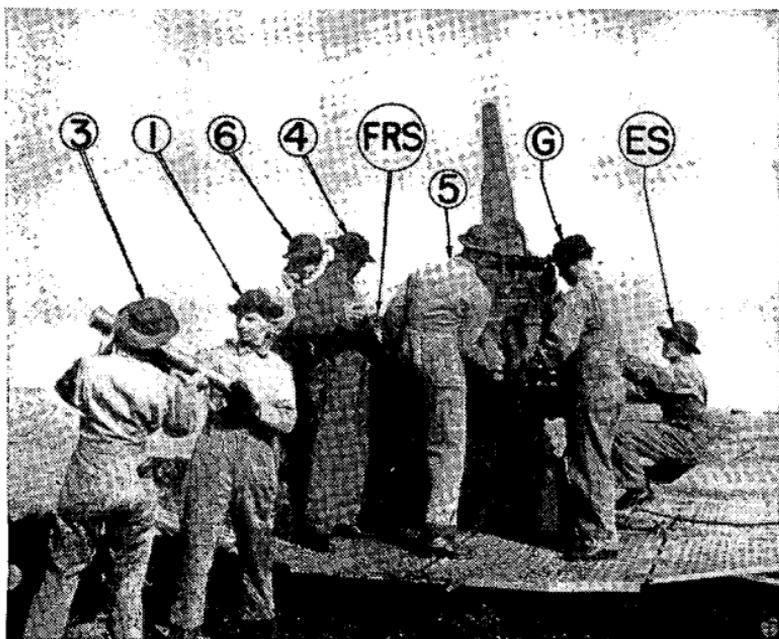

FIGURE 2.—Round being rammed, M3 gun on M2A1 mount
■ 15. METHOD OF RAMMING CARTRIDGE.—The cartridge is rammed into the gun with the left hand. Place the gloved fist on the base of the cartridge case, wrist practically vertical, and sweep the round smartly into the breech, applying continuous pressure, until the closing breechblock knocks the hand clear. The cartridge is rammed with the side of the fist, the pressure being applied through the back of the thumb and the side of the index finger. In this manner continuous pressure can be applied and the hand cannot be caught in the breech. Figure 2 illustrates the proper method of ramming.
■ 16. METHOD OF HANDLING AMMUNITION AND FUZE SETTER M8.—*a.* (1) The first ammunition handler takes a round from the stack near the piece, right hand grasping the projectile, left hand near the base of the round. He turns to the right and passes the round to the next ammunition handler. The second ammunition handler takes the round in his upturned palms, right hand near the base, left hand near the projectile, turns to the left, and lifting the round to the level of his eyes passes it to the ammunition handler stationed on the mount platform slightly to the rear and left of the fuze setter guide. The ammunition handler on the mount platform turns to the right to receive the round from the second ammunition handler. Then holding the fuze toward the setter, left hand grasping the projectile and right hand cupped over the cartridge base, he turns to the left and advances a step toward the setter raising the base end to aline the round with the axis of the setter. As the fuze enters the setter guide, he withdraws his left hand. With his right hand he pushes the round downward into the setter, leans forward, and while balancing himself with his right hand by pressing against the base end of the case, brings his left hand over and sharply slaps the release lever located on the top side of the fuze setter. He maintains pressure on the base of the round until the fuze setter operator has completed one turn of the crank and called out "Cut." He then straightens up, steps back, and on receiving the next round repeats the operation.
(2) After the fuze setter operator calls "Cut," the relayer withdraws the round from the fuze setter, steps toward the gun, and holds the round in loading position for the gunner.
*b.* The fuze setter operator, standing on platform alongside of the seated fuze range setter, maintains a downward pressure on the handle of the fuze setter crank. When the round is seated in the fuze setter and the setting release has been tripped, the fuze setter operator operates the crank one complete turn counterclockwise until the crank relocks and then calls "Cut." The fuze range setter, seated on the one seat of the setter, maintains pointer coincidence in the data indicator by manipulating the adjusting handwheel. Figures 2 and 3 illustrate the service of ammunition to the fuze setter and to the breech.
(1) When the round is in the fuze setter, pressure should be maintained against the base of the cartridge case until the call "Cut" is heard. The use of a heavy glove on the right hand of the ammunition handler who maintains such pressure will greatly reduce the friction against his hand produced by the rotating case.
(2) The release lever on the fuze setter should be tripped with a *glancing* slap at the release lever so that the latter will instantly recover and rearm itself before a full revolution of the crank has been completed.
(3) Sufficient downward pressure must be maintained on the crank of the fuze setter so that the rotation will start the instant the release is tripped. Otherwise the release lever would have to be held down and the release would probably fail to rearm in time for the crank at the end of its one revolution. When setting original or reconditioned Mk. III or Mk. IIIA1 powder train fuzes, the setting crank of the fuze setter should be turned at a moderate speed until the setting